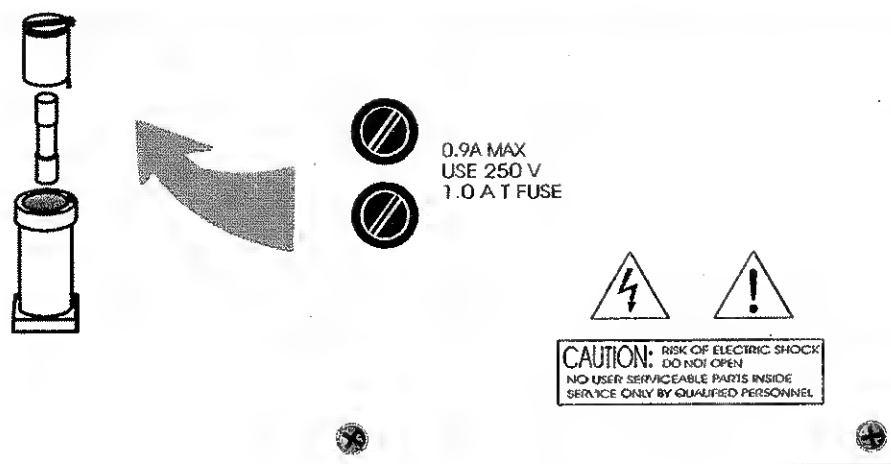

Figure 5-1: Removing Fuse Block Cap and Fuse from Housing
2. Place a small screwdriver in the notch in the fuse holder cap, push in, and rotate 1/4 turn. The cap will pop out a few millimeters. Pull out the fuse cap and fuse, as shown in Figure 5-1